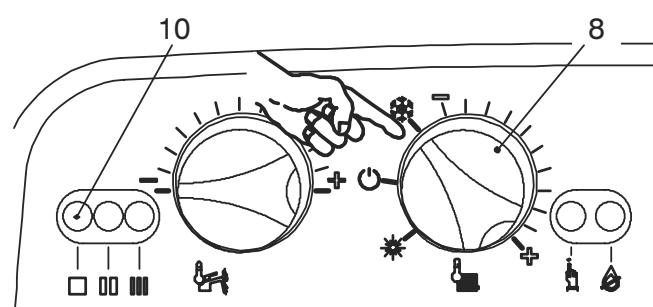

Fig. 2.4
- 2 Turn on the electricity supply to the boiler, switching on the fused spur isolation switch. The appliance operation light 10 (Fig. 2.4) will flash every 4 seconds (stand-by condition).
- 3 If the boiler is to be used for c.h. and d.h.w position the function selector 8 as in Fig. 2.4. The appliance operation light 10 will flash every 2 seconds (operating boiler).